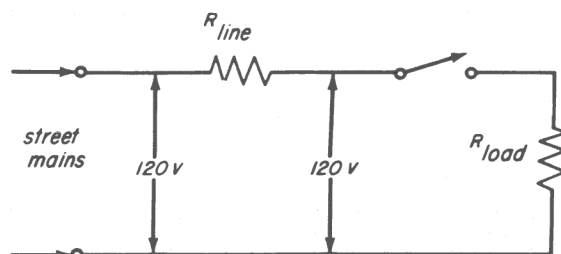

Fig. 13-2
The equivalent circuit of your electric wiring (very much simplified) is shown in Fig. 13-2. R_{line} represents the resistance of your wiring between the mains and the load. It shows the voltage available when no load is applied, and represents the reading that you took in Step 4. For all practical purposes, your meter is considered to draw no current. When no current flows, there is no voltage drop due to the resistance of the line (represented by R_{line}). As you remember from earlier lessons, current must flow before there is a voltage drop across a resistor. According to Ohm's Law, $E = IR$. If there is no current, the voltage (E) is equal to zero (I) times the resistance (R). Zero times R is, of course, zero.